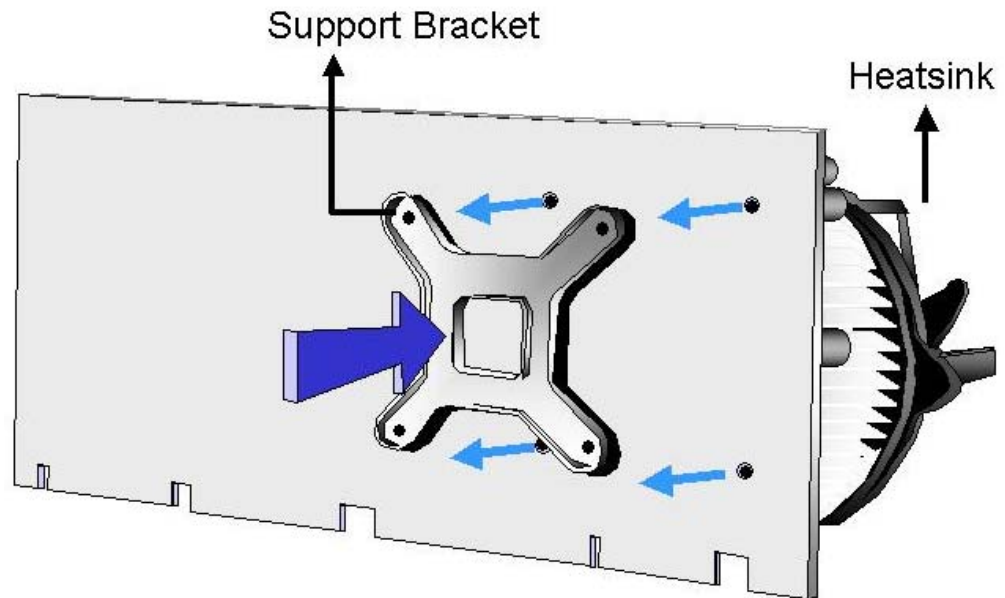

Figure 5-7: Securing the Heat sink to the PCB Board
- Step 4:** Secure the cooling kit. From the solder side of the PCB, align the support bracket to the screw threads on heat sink that were inserted through the PCB holes. (See **Figure 5-7**)